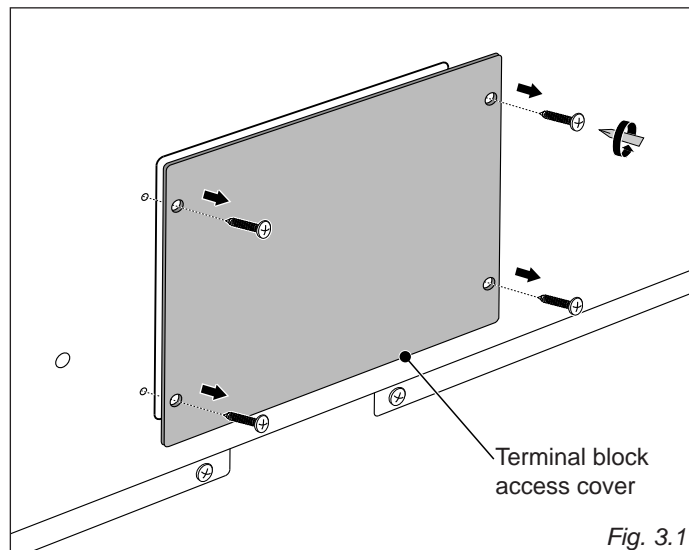

Fig. 3.1
- Units may be hard wired to the power supply. The installer must provide approved flexible aluminum conduit, 1/2" (13mm) trade size, maximum 6ft (1.8m) long. Locate the terminal block on the rear of the unit and remove access cover (fig. 3.1).
- Reinstall the Terminal Block cover (fig. 3.1).